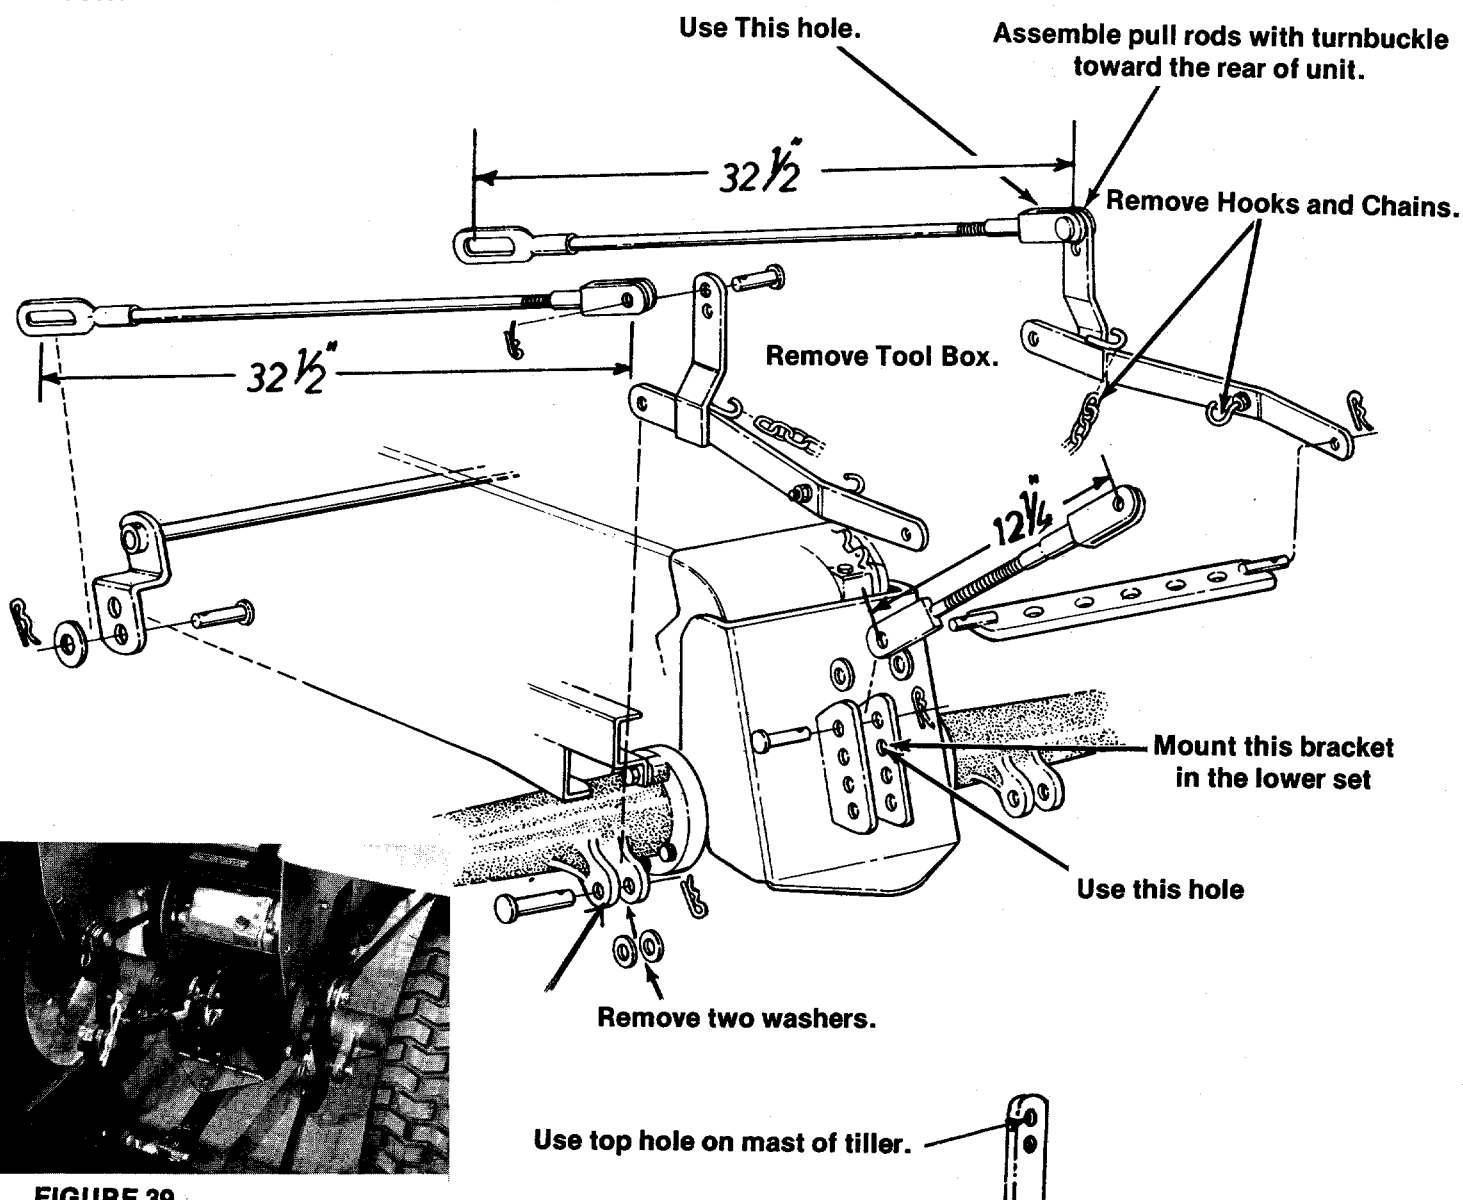

FIGURE 39.
3. Adjust the tractor pull rods to 32½" long. See figure 39.